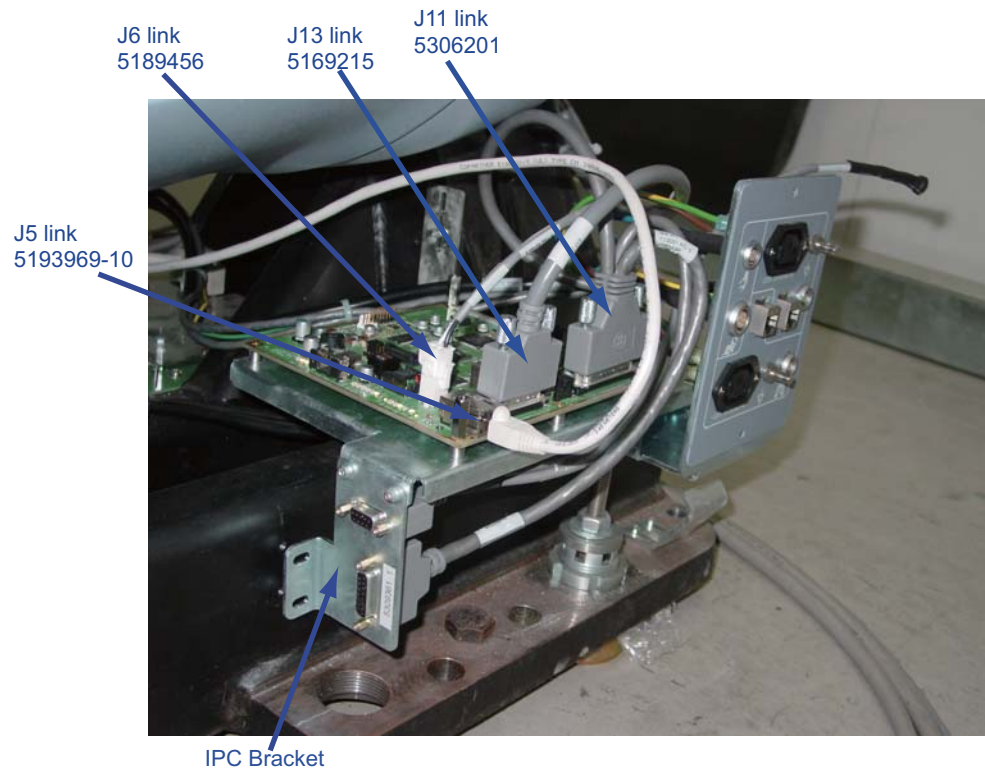

Figure 1-11 IPC BD Connection
- 5.) Connect cables 5189456, 5169215 and 5193969-10 to J6, J13 and J5 of IPC BD according to their labels. Connect cable 5306201 to J11 of IPC BD and IPC bracket according to its labels, as shown in Figure 1-11.